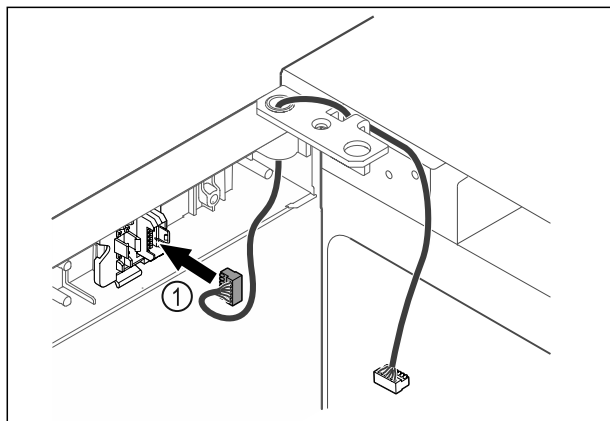

Fig. 38
- Put the plug Fig. 38 (1) in the plug holder.